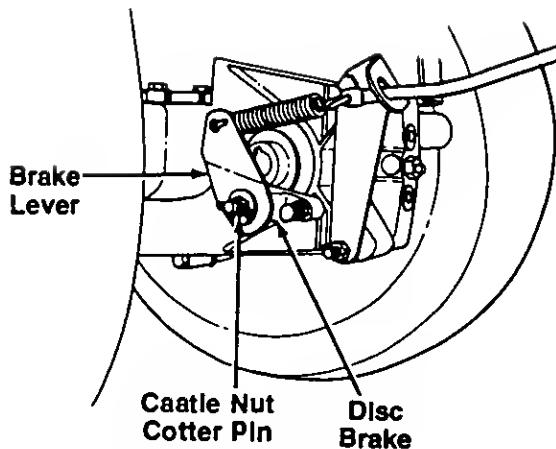

FIGURE 16.
**NOTE: Figure 16 is shown with the unit tipped up on rear wheels for clarity only.**